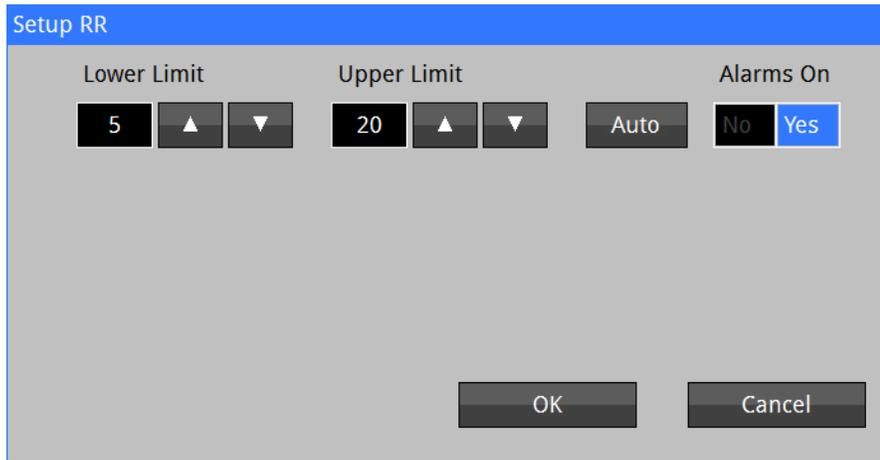

Figure 18: RR Setup Menu
- 1) Touch RR Numeric field and the Setup RR menu will be displayed (refer to Figure 18);